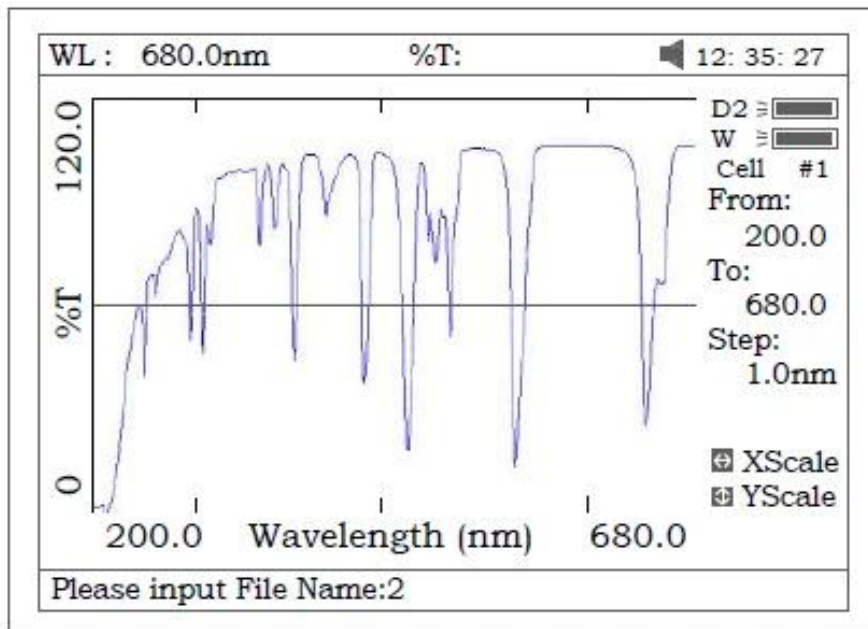

Figure 15
- Name the curve by pressing the numeric keypad (Fig 15), press the key **【ENTER】** to confirm.